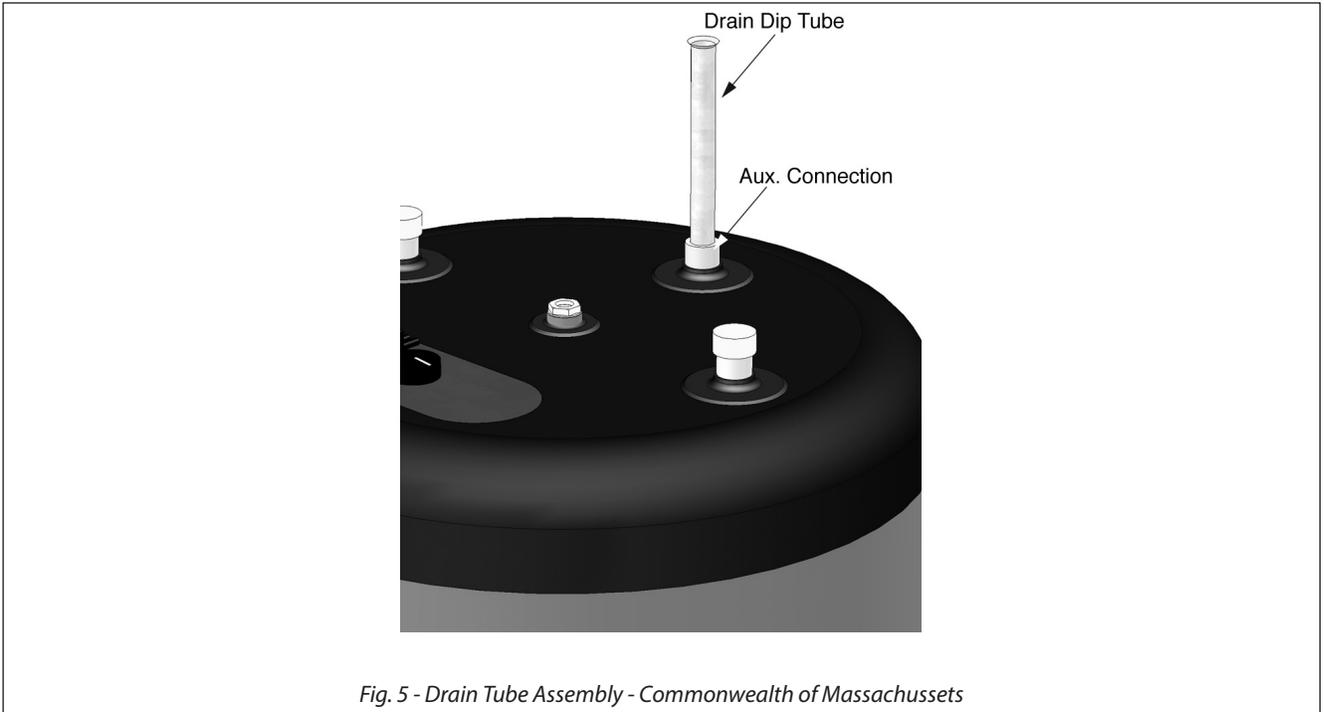

Fig. 5 - Drain Tube Assembly - Commonwealth of Massachusetts
- Insert an open end dip tube into the Auxiliary connection on top of water heater, as shown in *Fig. 5 on page 9*. See *Table 1 on page 5* for diameter and length of dip tube